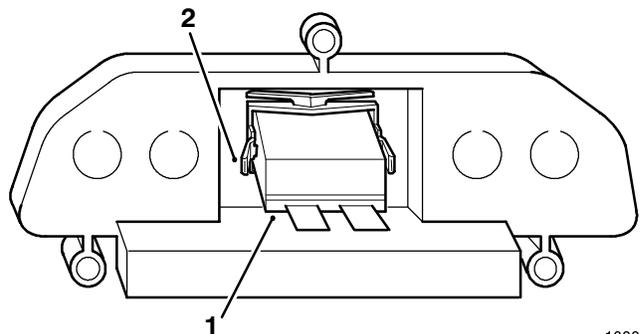

Figure 3
- B. Using your thumbs, pull out on the locking tabs and push the hour meter out of the dash insert (Fig. 3).
1. If the tractor was originally equipped with an hour meter, install it in the new indicator light module using the retaining bracket (Fig. 3). Otherwise, go to step 2.